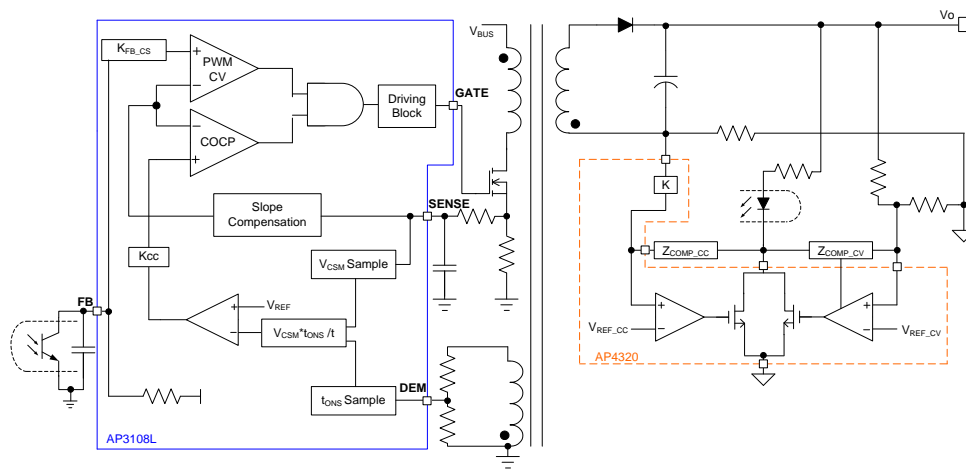

Figure 1
Figure 1 describes how the AP3108L and AP4320 work together to achieve constant voltage (CV), constant current (CC) and primary constant OCP (COCP) control. At secondary side, the sensed output voltage or output current signals are compared with the corresponding reference V_{REF_CV} and V_{REF_CC} in AP4320. The inner CV and CC amplifier combine with an external compensation network to generate an amplified error signal and transfer to the primary side FB pin through the opto-coupler. It's noted that only one amplifier works at one moment between CV and CC amplifier. The scaled FB voltage comparing with the SENSE voltage after slope compensation will turn off primary switch and determine the duty cycle.